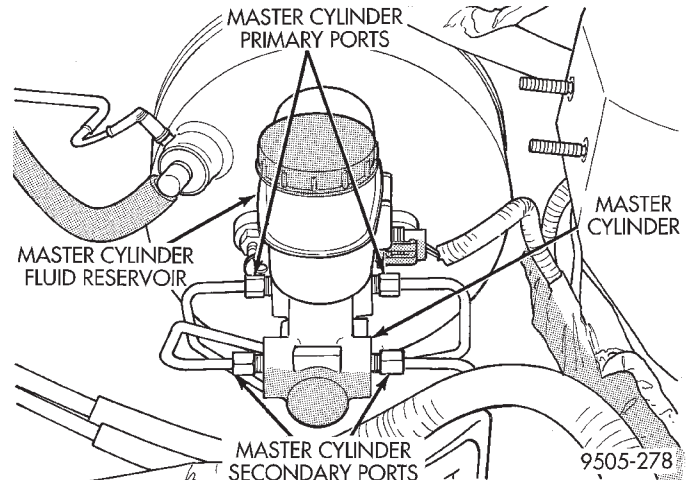
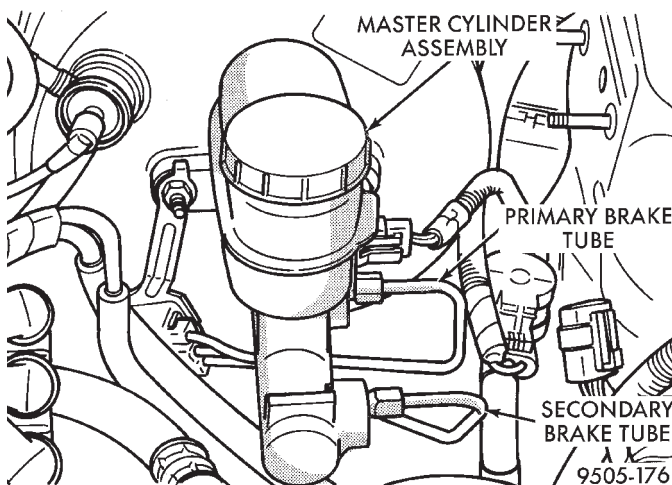

Fig. 72 Primary And Secondary Brake Tubes Without Antilock Brakes
Fig. 71 Primary And Secondary Brake Tubes With Antilock Brakes
(8) Remove the primary and secondary brake tubes (Fig. 71) and (Fig. 72) from the master cylinder assembly.
- (10) Install the primary and secondary brake tubes (Fig. 71) and (Fig. 72) in the master cylinder assembly outlet ports. Tighten all tube nuts to a torque of 17 N·m (145 in. lbs.).